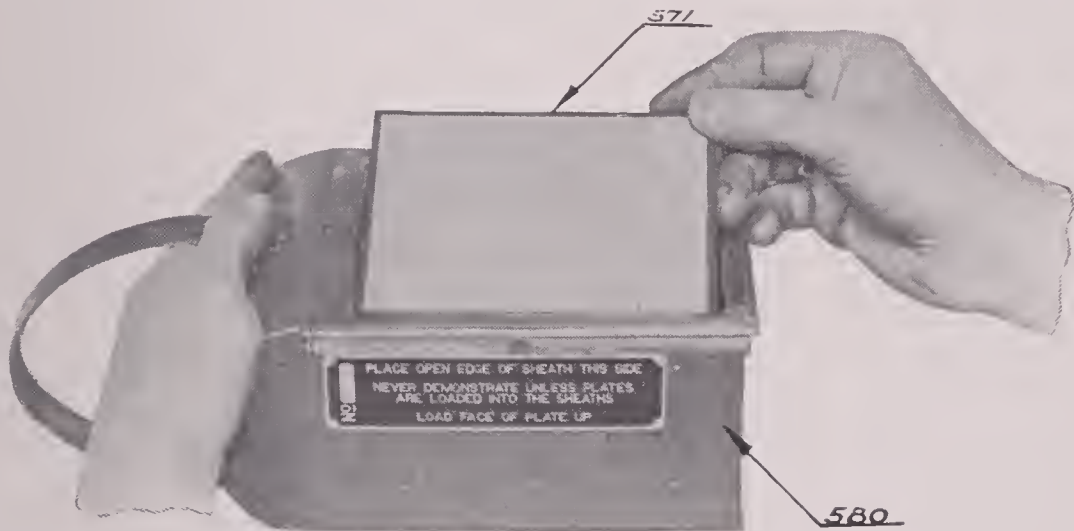

Figure 3
19. These are constructed entirely of metal to hold twenty-four (24) plates only. A strap is provided to enable the operator to more easily attach and remove the magazine from the camera. This strap can also be utilized as a carrying handle. Before loading, the septums should be counted and carefully inspected. If any of the septums are bent or dented, they should be repaired before using. A septum forming outfit and mallet are provided for this purpose. When loading the septums, it is of the utmost importance that the plates are of the correct size. If the plate is too wide, it will ride on the turned up lip at the edge of the septum, causing the camera to jam. The septums should be placed in the magazine with the open edge towards the metal instruction plate attached to the side of the magazine and the plates must be placed in the septums and the loaded septums in the magazine with the emulsion side up, as indicated in Fig. 3.
20. Fig. 3 shows the correct method of placing the septums in the magazine.